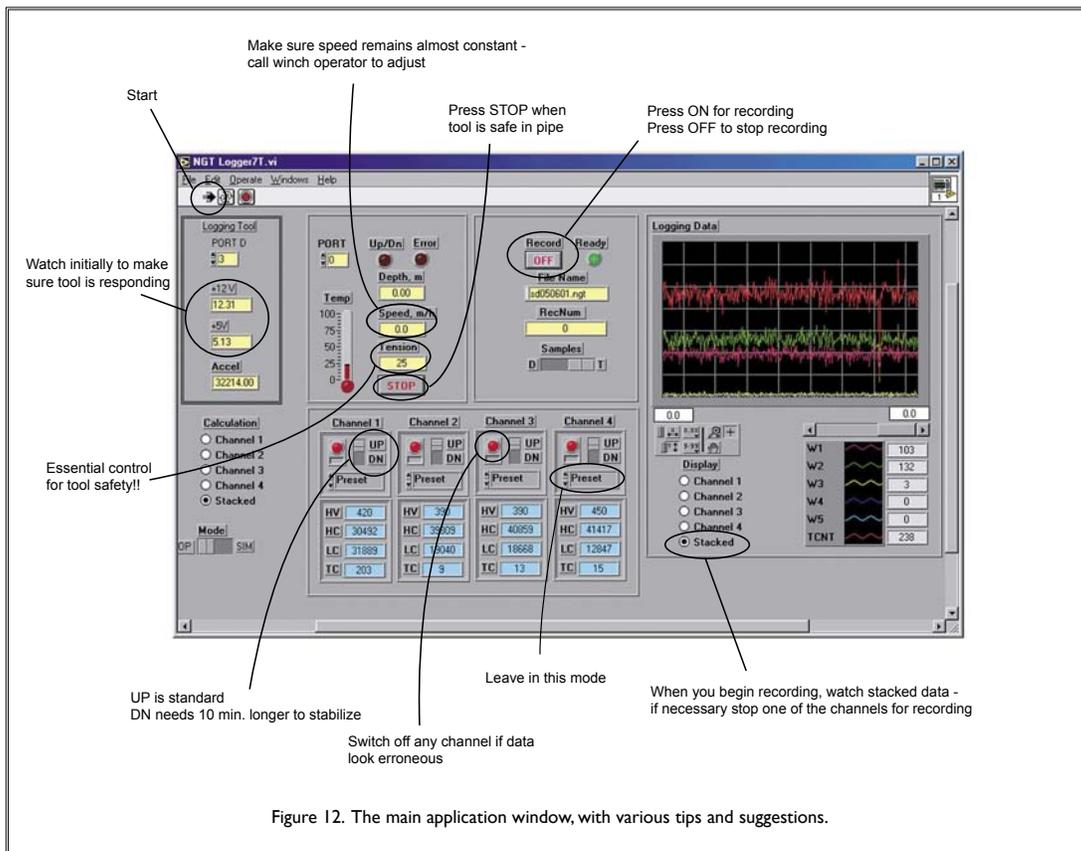

Figure 12. The main application window, with various tips and suggestions.
9. Type in the name of the data file. (By default, the program will assign the date as the filename.) For a repeat pass, add “rep” to the name so the passes can be distinguished. A typical data file name might be the hole name followed by the direction of the logging pass: sd050601down.dat, or sd050601up.dat. Once the file name is entered, press “Save.” You can now focus on the main application window (Figure 12, below).
3. The MGT needs about 10 minutes to stabilize in UP mode and about 20 minutes to stabilize if it is run in DOWN mode. UP and DOWN mode do not correspond with the direction of the tool but rather are associated with the initialization of the tool. In UP mode, the regulation system is off, and in DOWN mode the regulation system is on. **You should leave the setting in the pre-set mode (UP) at all times.**
6. Even without the measurement module connected, the telemetry system will work, so you will see appropriate behavior on the left side of the software's data acquisition screen (Figure 12). If the measurement module is connected and working properly, you will also see "refreshing" values being generated in the lower center part of the DAS panel.
1. With the tool powered up, check the left side of the data acquisition screen (Figure 12) where the “12V,” “5V,” and “Accel” fields are. If you see nothing in these fields, the tool is dead. If you see information here, then the tool is at least partially working.
3. Remember that you, the logger, are the only person who can monitor tension, so be alert. Pay close attention to the data acquisition screen in the Logger.vi application (Figure 12).